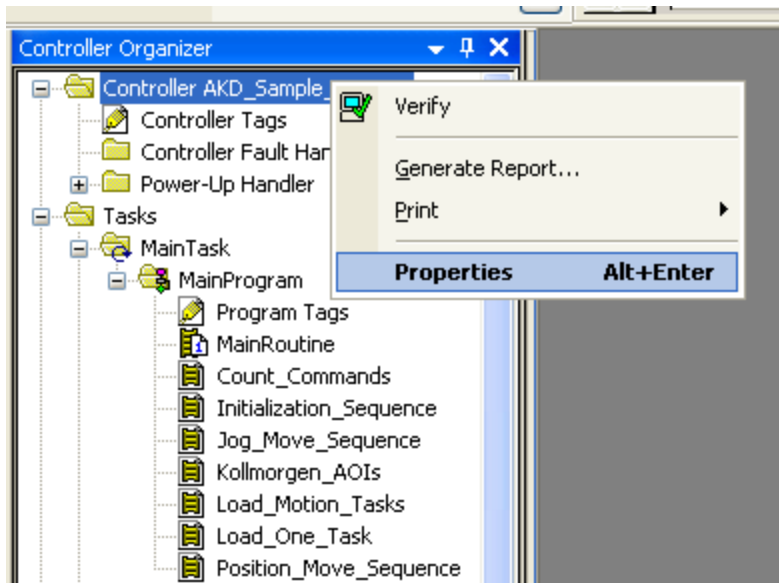

Figure 3-1: Opening Controller Properties
2. You will most likely need to update the controller properties to match your specific installation. Right click on the controller ("AKD\_Controller") at the top of the tree and select "Properties" (Figure 3-1: Opening Controller Properties).